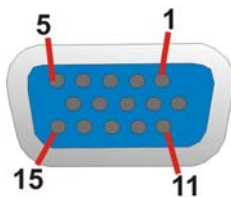

Figure 4-15: VGA Connector
- CN Pinouts:** See Figure 4-15 and Table 4-9